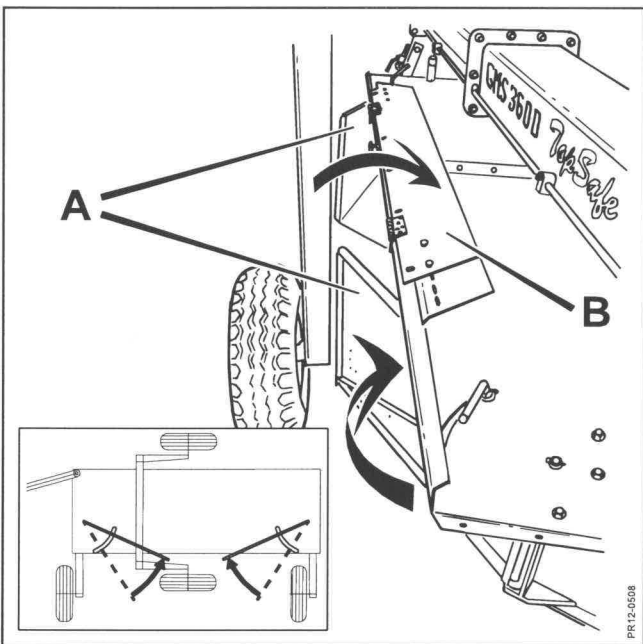

Fig. 3-3
- Fig. 3-3** 1) **ENSURE THAT SWATH GUARDS ARE “FOLDED”.**